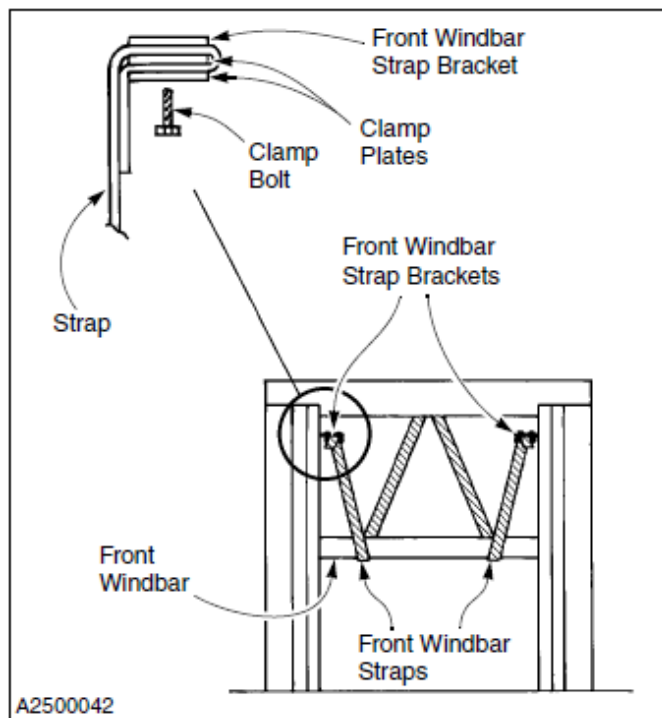

Figure 68
7. **Front Windbar:** Route the straps under the front windbar and up through the clamp plates of the front windbar strap bracket. (See Figure 68)